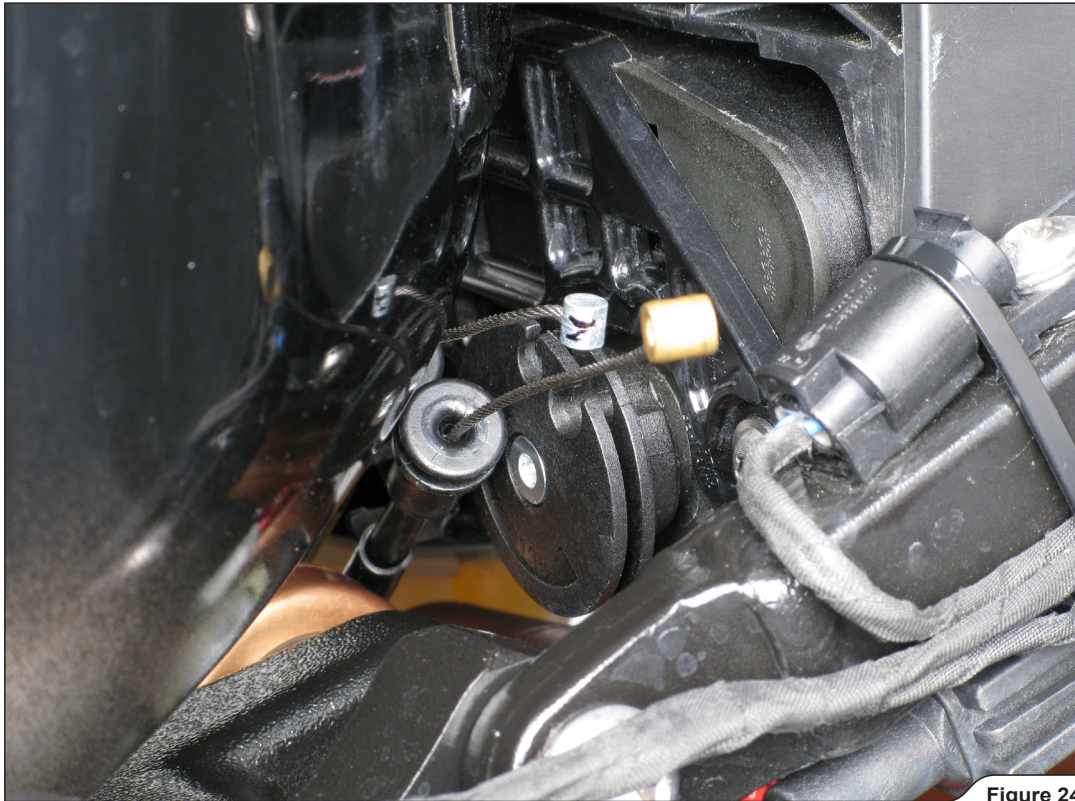

Figure 24
8. **For street legal Racing and Evolution only:** remove the stock exhaust cables off the stock exhaust valve and install them back onto the exhaust valve servo motor (**Figure 24**).